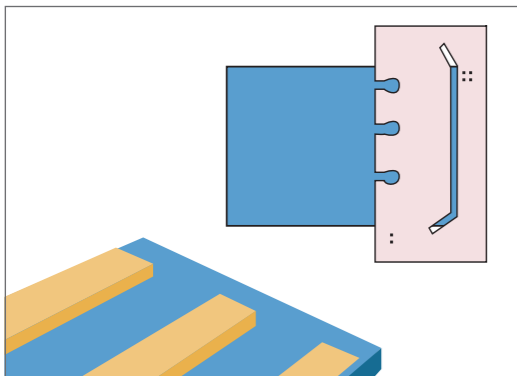
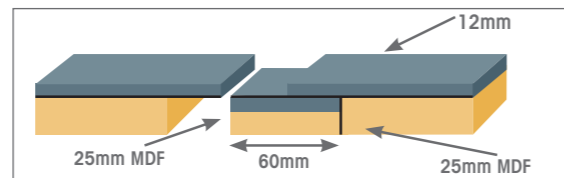

Fig. 8 Underside of Male Mason's Mitre after routing
Fig. 9 Standard Join - Cleat method
- Cut the blank that is the male side of the join to length by measuring the length required and then refer to Fig. 8 or Fig. 9 to provide a template positioning line in pencil.
- All joints must be reinforced using the standard cleat method as Fig. 9.